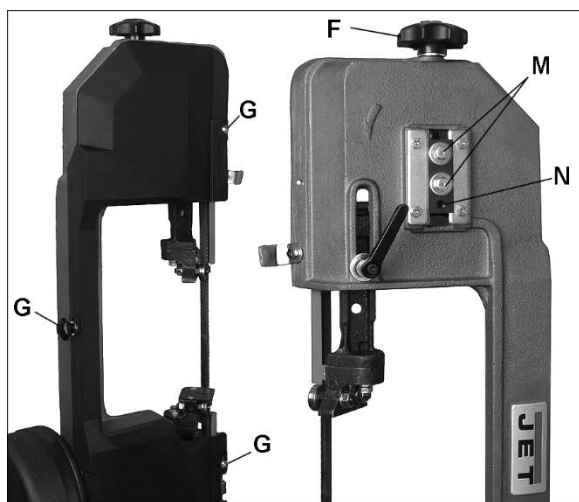

Figure 18
7. Loosen bolts (M, Figure 18) with 12mm wrench.
8. Turn set screw (N) with 4mm hex key, while observing blade tracking on wheel. Turn set screw clockwise to track closer to wheel flange. Turn set screw counterclockwise to track away from wheel flange. **NOTE:** This adjustment is sensitive; start with 1/4 turns on the set screw and allow blade to respond to changes.
9. Once tracking is set, tighten bolts (M).